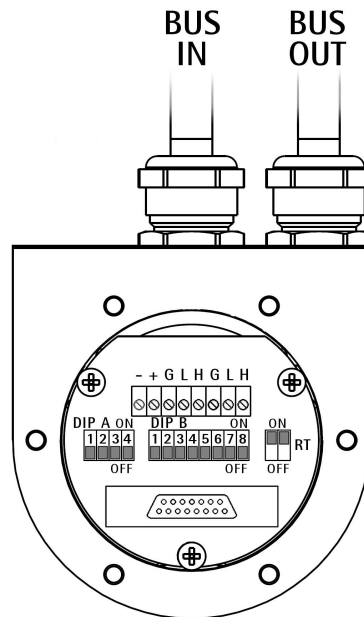

Figure 1 - Connection cap
4.4 RT Bus termination (Figure 1)
4.5 Baud rate: DIP A (Figure 1)
4.6 Node number: DIP B (Figure 1)